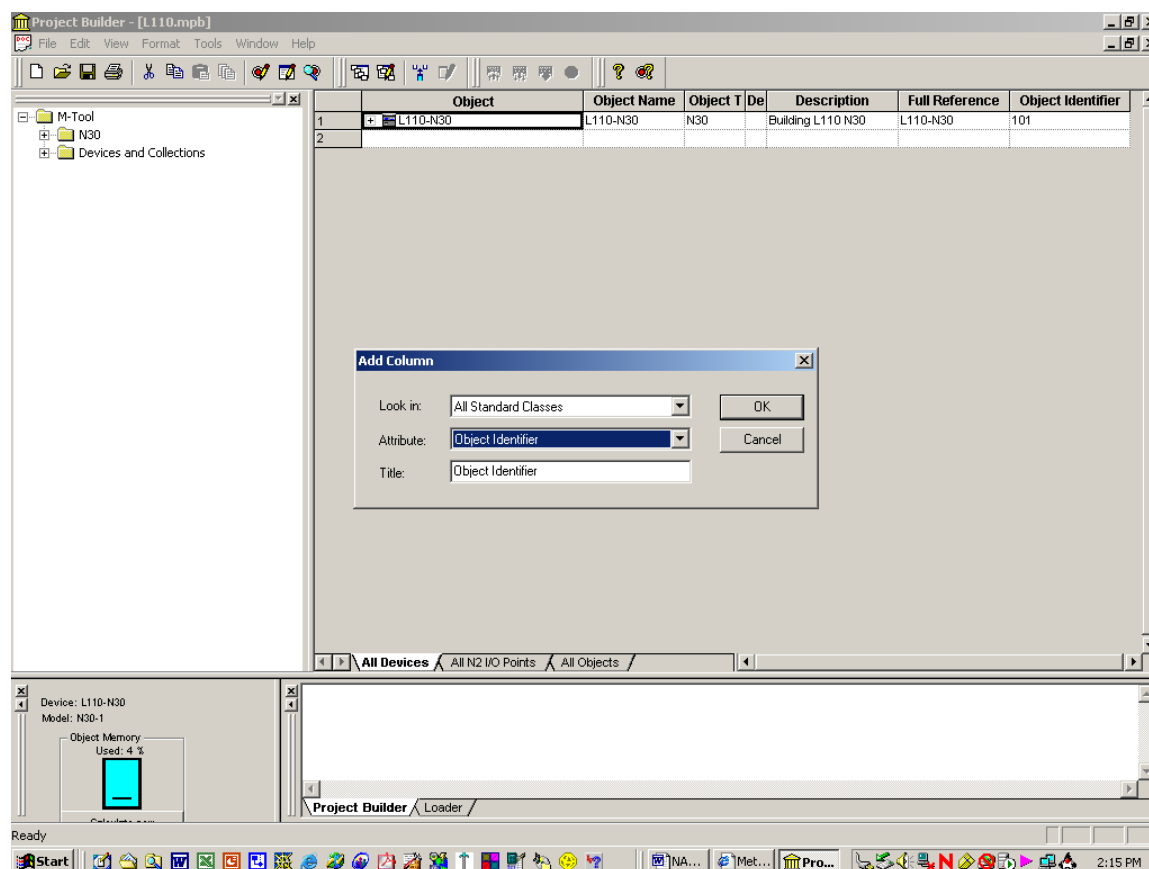

Figure 24: Project Builder - Add Column
4. Select Format > Add Column to display this value in Project Builder. The Add Column dialog box appears (Figure 24).